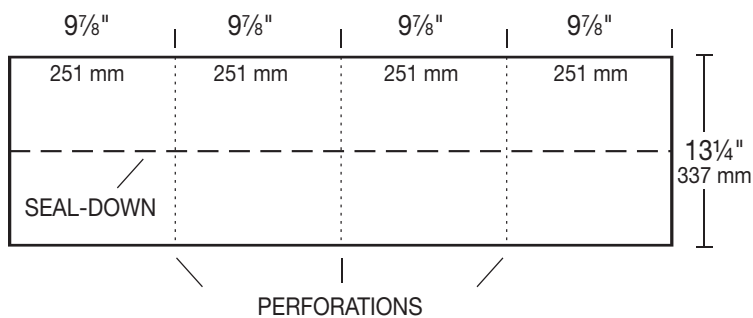
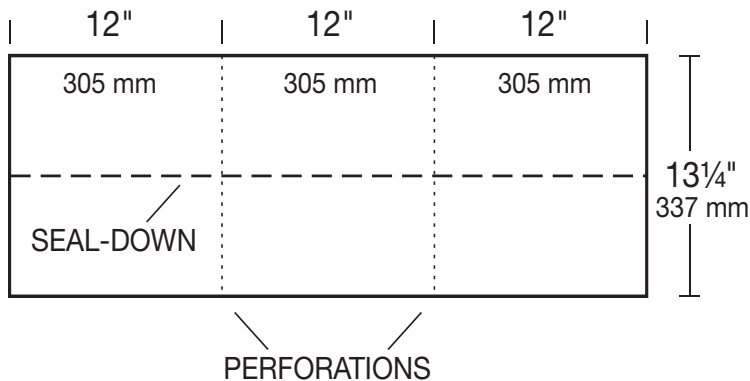

Figure 16 - 10" RidgeFlex® Hip and Ridge Shingle
Figure 17 - 12" RidgeFlex® Hip and Ridge Shingle
Prepare for application by separating each hip and ridge shingle at the perforations: The 10" RidgeFlex® produces four (4) individual hip and ridge strips (see Figure 16), and the 12" RidgeFlex® produces three (3) (see Figure 17). Note the seal-down strips.